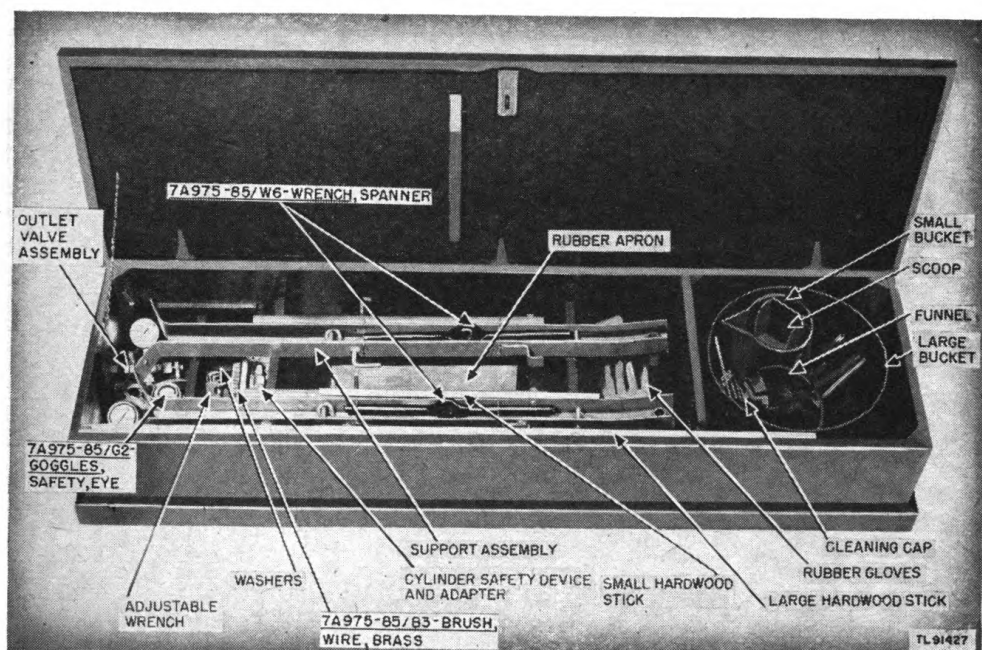

Figure 6. Chest for accessories, open.
a. GENERAL. The chest is a wooden box in which the support assembly, accessories, and running spare parts are stored and shipped. The chest is 61¼ inches long, 20¾ inches wide, and 11½ inches high. The top cover is hinged and is held upright, when open, by a chain at one end. The inside of the chest is divided into three main sections for the convenient storage of the various items. (See fig. 6.)
*a.* MOUNTING CYLINDER ON SUPPORT ASSEMBLY. Two operators are required to mount the cylinder on its support assembly. The support assembly and all accessories are stored in the chest. (See fig. 6.)